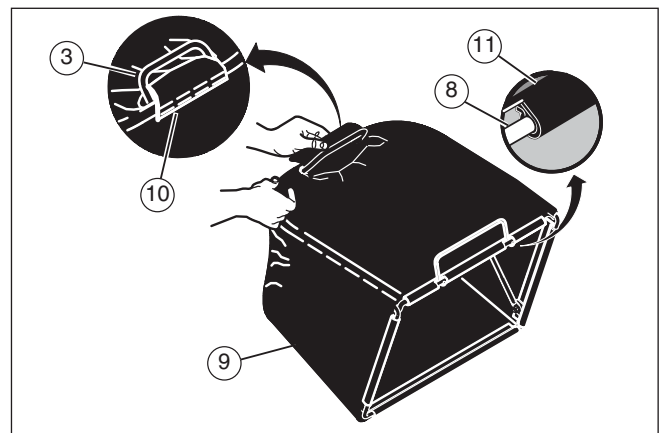

Figure 7
4. Open the Velcro flap (10) (see **Figure 7**). Slide the handle (3) through the opening and secure the Velcro flap under the handle.
5. Attach the clips (11) to the frame assembly (8).